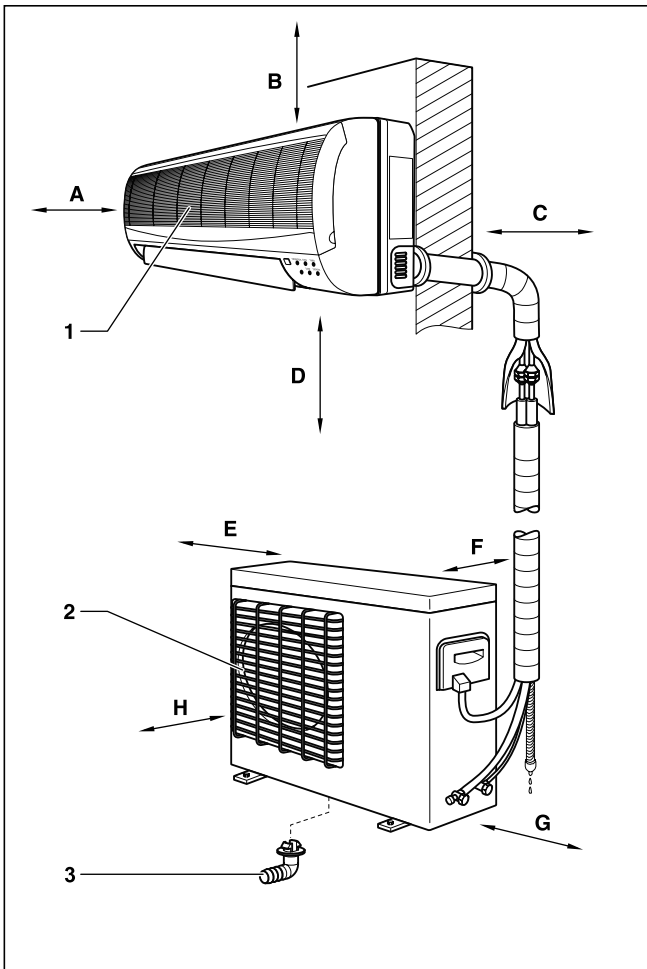

Fig. 10.1 General diagram of the installation and the minimum assembly distances.
- Check that there is sufficient space to observe the minimum distances (see Figure 10.1).